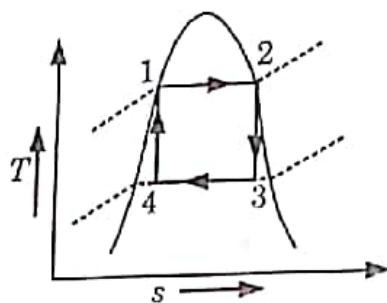

Fig. 1.17.1. Carnot vapour power cycle.
1. It is an ideal cycle having highest thermodynamic efficiency. Carnot cycle is shown in Fig. 1.17.1.